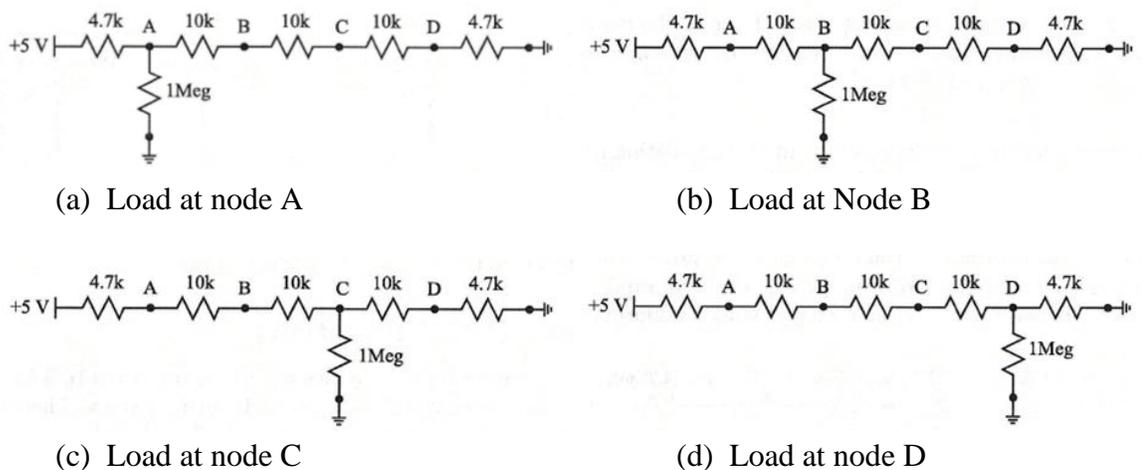

Figure 6.4: Resistor string ladder with a 1 MΩ resistor load attached at one of the nodes A through D in each diagram.
- i. Rerun the simulation to determine the four node voltages when a 1 MΩ resistor load is connected to node A, as shown in Figure 6.4 (a). Enter the results in Table 1.
- ii. Repeat with the load connected sequentially to nodes B, C and D, as shown in Figures 6.4 (b) through (d). When you're done, there should be a total of five simulations with values determined for each of the four node voltages, V_A through V_D , for each simulation.